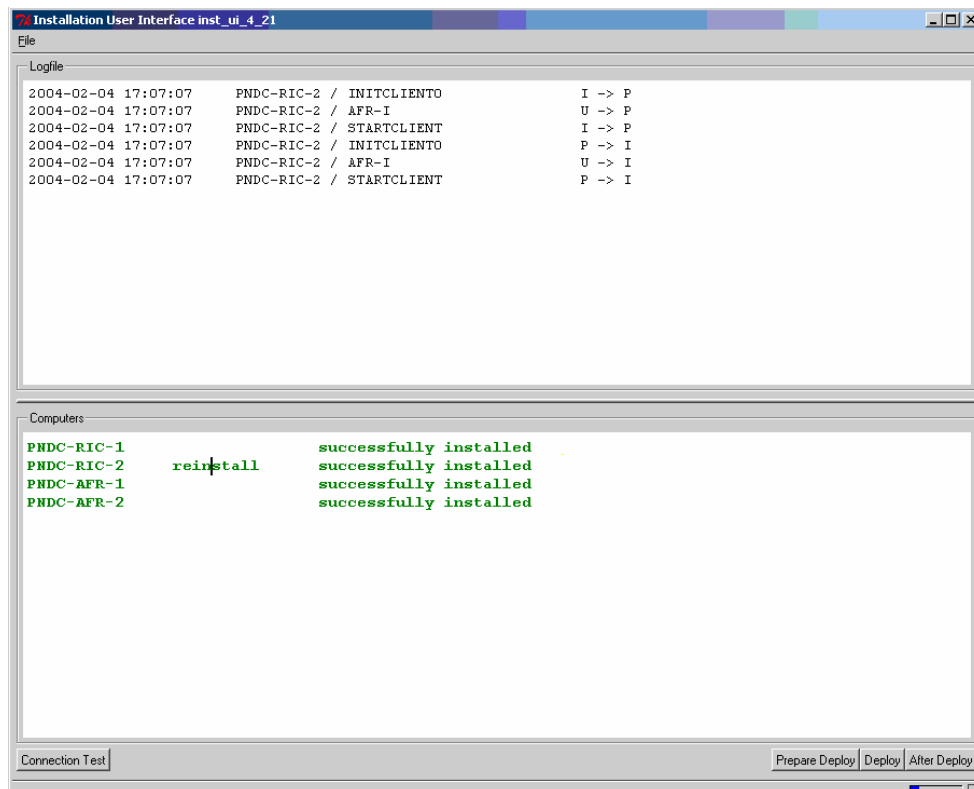

Figure 1-234. Install UI Showing RIC-2 Successfully Reinstalled
1. Click on **Deploy**. Normal deployment sequence of actions occur. Review the 'LogFile' for indications of a successful deployment. When the 'Deploy' phase has passed all checks and system generations successfully, the computers marked for reinstallation will be reinstalled automatically. Take no further actions until the computers are 'successfully installed' (Figure 1-234).